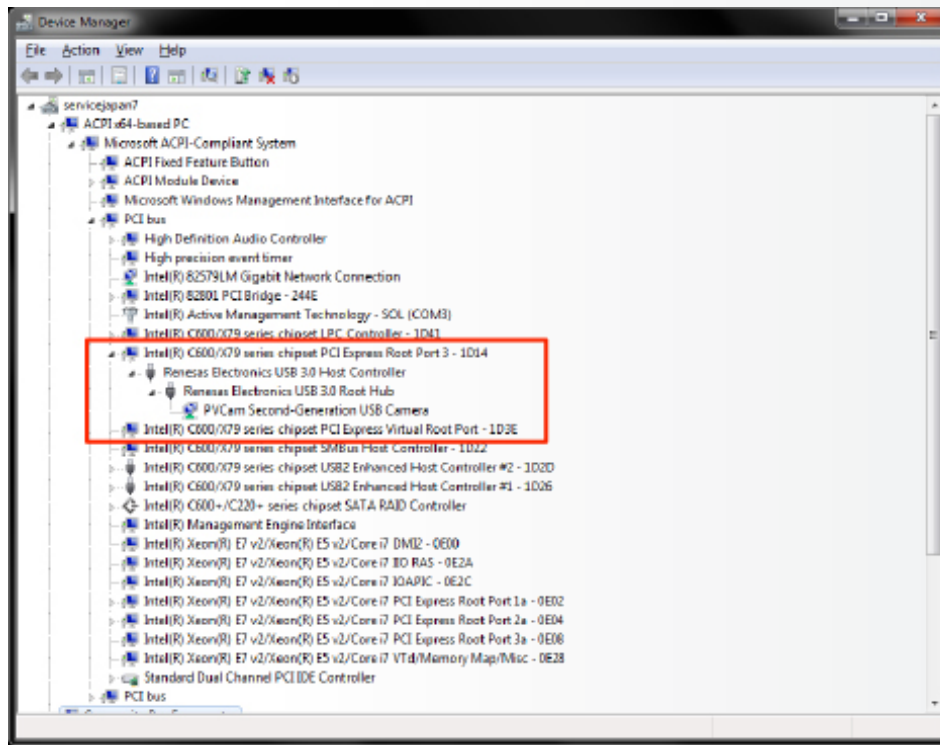

Figure 2. Teledyne Photometrics USB3 camera is the only device on its USB Root Hub.
should be connected to a USB 3.0 port. It should also be the only device on its USB root hub controller (see Figure 2 below). Please see the following section on how to select the appropriate USB port for optimum camera performance. This ensures the maximum bus bandwidth is available to the camera for data transfers. USB 3.0 ports are often (but not always) identifiable by a blue internal socket or the “SuperSpeed” (or just “SS”) USB logo.
3. According to Figure 2, find the USB host controllers, expand them, and check whether your camera is the only device connected to the Root Hub.